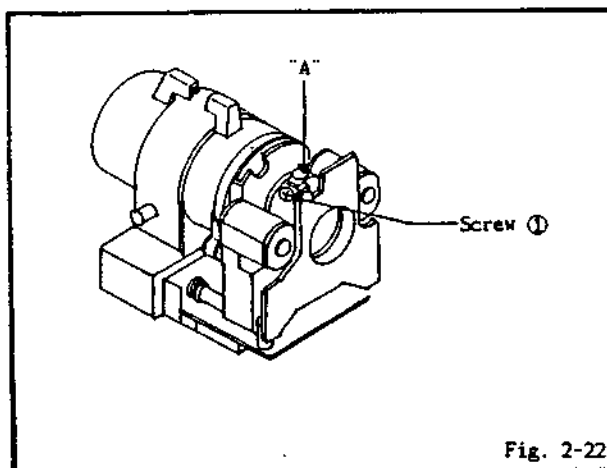

Fig. 2-22
5. Loosen the screw ①.
6. Using a collimeter adjust the point "A" with the back focus adjustment driver (JG046B) until the best picture of Fig. 2-22 appears.
7. After the above adjustment, tighten the screw ① and re-check the focus.
(Refer to Fig. 2-22)